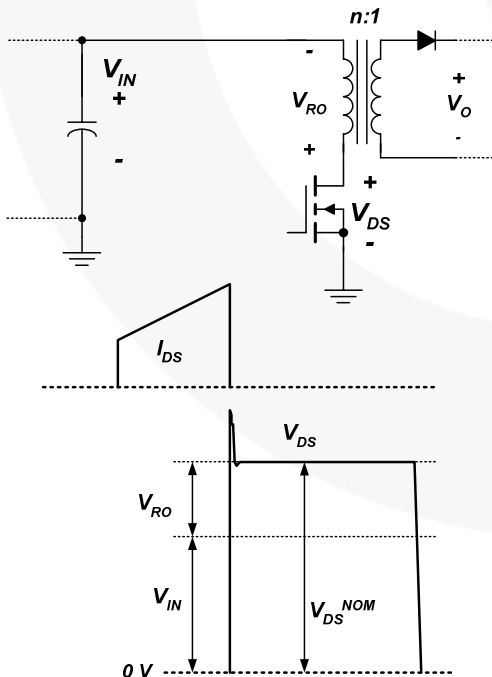

Figure 3. The Output Voltage Reflected to the Primary
When the MOSFET is turned off, the input voltage (V_{IN}), together with the output voltage reflected to the primary, (V_{RO}) are imposed across the MOSFET, as shown in Figure 3. With a given V_{RO} , the maximum duty cycle (D_{MAX}) and the maximum nominal MOSFET voltage (V_{DS}^{NOM}) are obtained as:
As can be seen in Equation (7), the voltage stress across the MOSFET can be reduced by reducing V_{RO} . However, this increases the voltage stresses on the rectifier diodes in the secondary side. Therefore, V_{RO} should be determined by a trade-off between the voltage stresses of MOSFET and diode. Because the actual drain voltage rises above the nominal MOSFET voltage due to the leakage inductance of the transformer, as shown in Figure 3, it is typical to set V_{RO} around 70~100V so that V_{DS}^{NOM} is 430~450V for 600V MOSFET (73~78% of MOSFET voltage rating).